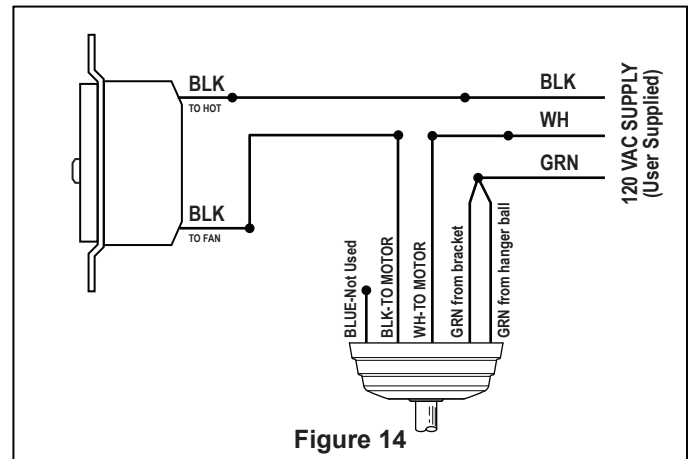

Figure 14
2. Installing Wall Control (Figures 14 & 15):
- Make wiring connections with wire nuts as shown in Figure 14.